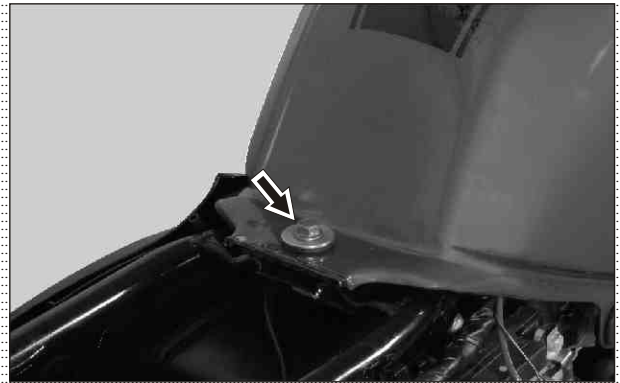

Fig. 3.26
- Remove hexagonal flange bolt (M8x25 - 1 no) from the fuel tank mounting along with bush fuel tank rear mounting. (Fig. 3.26)